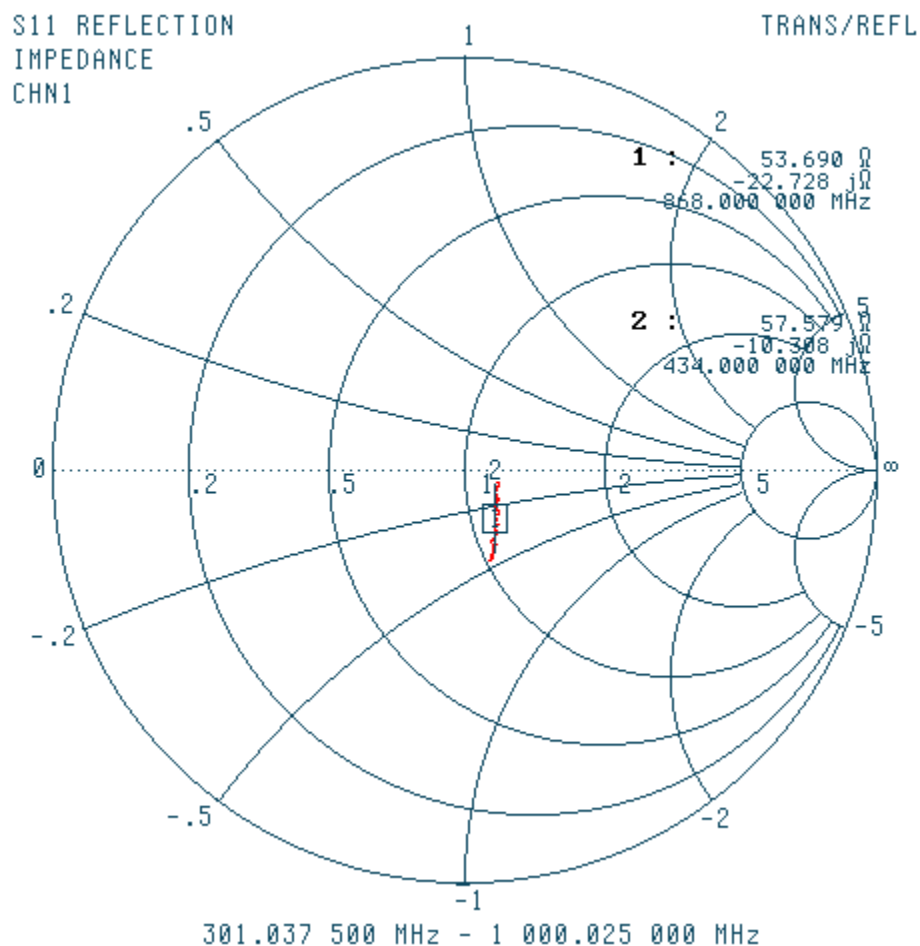

**Figure 5-22. Input and Output Matching Network**
When designing the impedance matching network for the CC1020 device, the circuit must be matched correctly at the harmonic frequencies as well as at the fundamental tone. A recommended matching network is shown in Figure 5-22. Component values for various frequencies are given in Table 5-8. Component values for other frequencies can be found using the SmartRF Studio software.
As can be seen from Figure 5-22 and Table 5-8, the 433 MHz network utilizes a T-type filter, while the 868/915 MHz network has a  $\pi$ -type filter topology.
**Table 5-8. Component Values for the Matching Network Described in Figure 5-22**